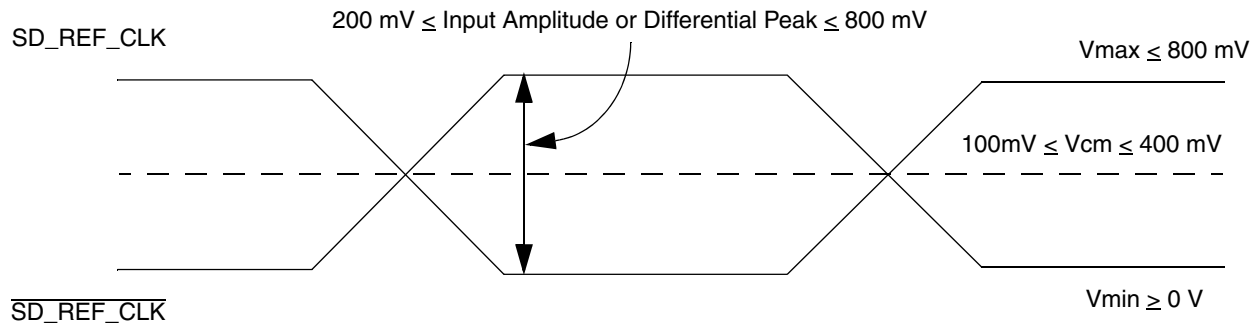

Figure 37. Differential reference clock input DC requirements (external DC-coupled)
- For **external DC-coupled** connection, as described in Section 2.20.2.1, “SerDes reference clock receiver characteristics,” the maximum average current requirements sets the requirement for average voltage (common mode voltage) to be between 100 mV and 400 mV. Figure 37 shows the SerDes reference clock input requirement for DC-coupled connection scheme.